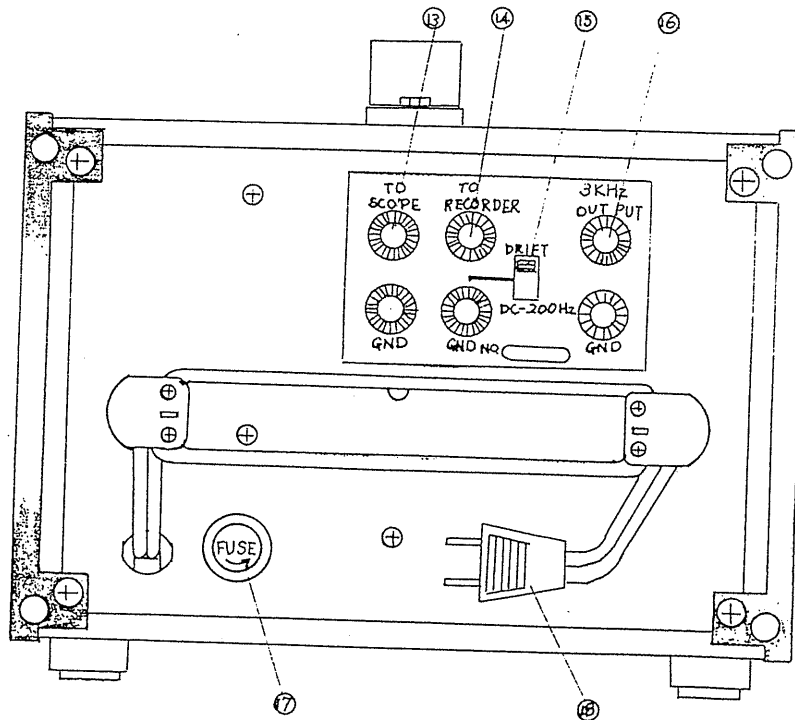

Fig. 3-2 Rear panel layout
- 3.2 EXPLANATION OF REAR PANEL (See Fig. 3-2.)
- (13) TO SCOPE: This terminal provides a wow and flutter signal which can be displayed on an oscilloscope for waveform observation and period measurement. The GND terminal is connected to the chassis. The output impedance is approximately 50 k $\Omega$ .
- (14) TO RECORDER: This terminal is for recording of drift (tape speed), or wow and flutter, using a recorder. The GND terminal is connected to the chassis. The output impedance is approximately 50 k $\Omega$ .
- (15) DRIFT